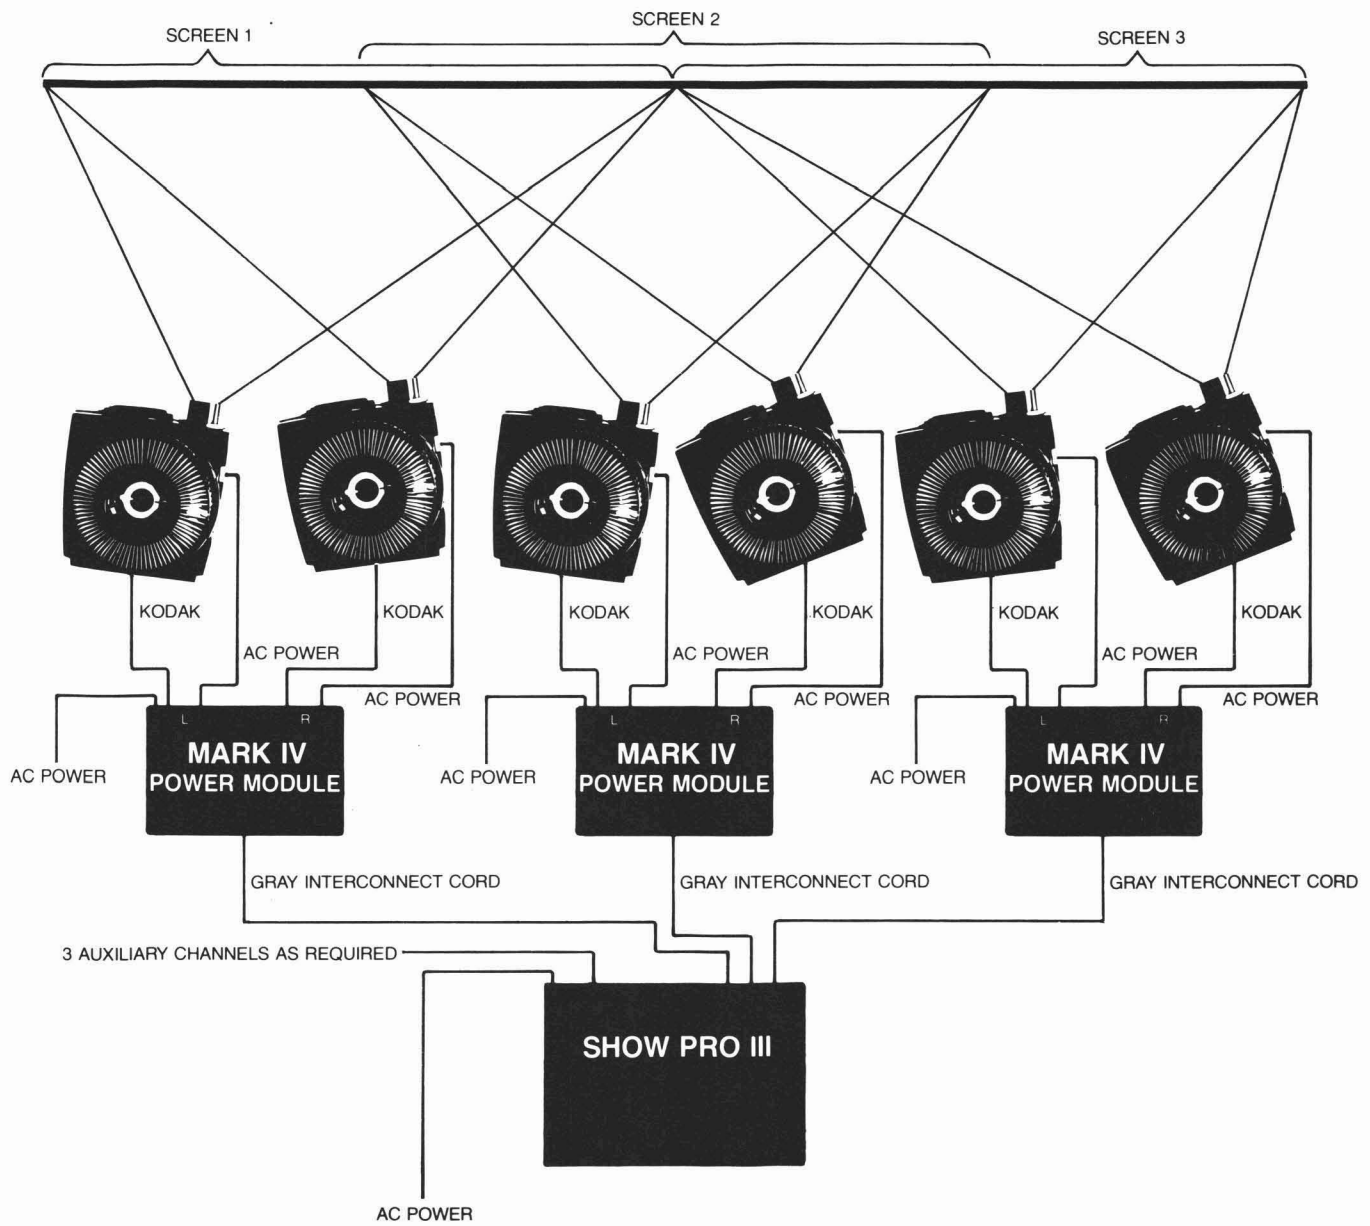

Figure 5
- Overlapping screen areas using masked slides **(Figure 5, page 13)**